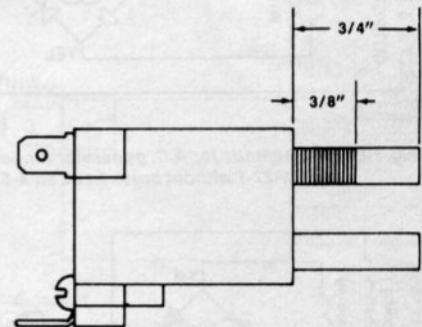
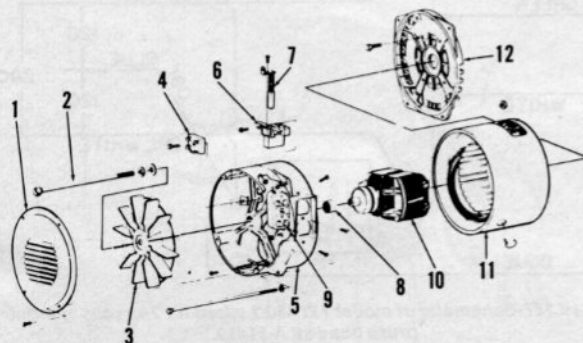

Fig. HL131—Brush length should not be less than $\frac{3}{8}$ inch when measured as shown above. Brush length of a new brush is $\frac{3}{4}$ inch.
Fig. HL130—Exploded view of models 128A10-1B, 129A15-1B, 130A22-1B and 131A30-1B. Other models are similar.
BRUSHES. Brush length and condition should be checked after every 1000 hours of operation. Brushes can be inspected after removing brush head cover (1—Fig. HL130), rotor bolt (2) and fan (3). Note: do not attempt to hold rotor with fan to remove rotor bolt. Loosen screws retaining brush holder and slide out brush holder. Brushes must be renewed if brush length is shorter than $\frac{3}{8}$ inch as shown in Fig. HL131. Be sure to reinstall a used brush so that brush curvature matches collector ring. During reas-
DISASSEMBLY AND REASSEMBLY. Refer to Fig. 130 for an exploded view of generator and to appropriate schematic. Be sure to mark wiring so that it may be correctly connected for reassembly. Wire should be handled carefully to prevent damage to wire, insulation or connections. Generator rotor (10—Fig. HL130) has a taper fit with engine crankshaft and should be removed with a suitable tool.